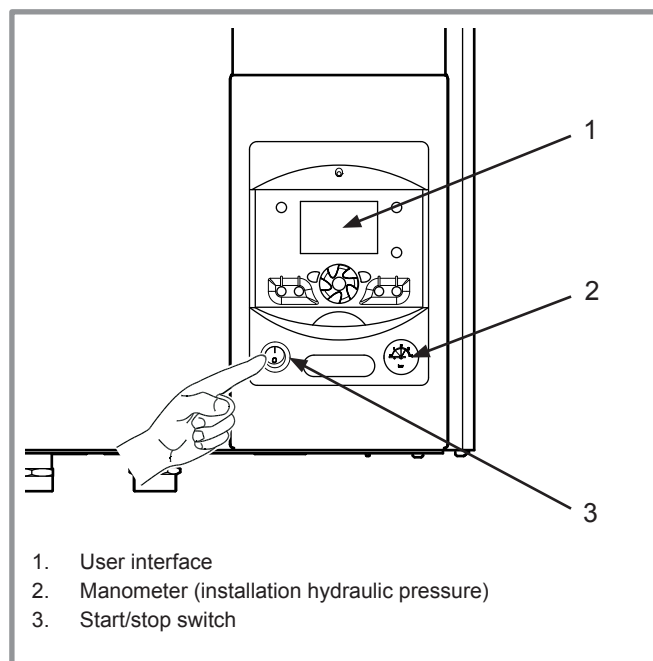

figure 5 - Start-up
- Ensure that the installation is fully filled with water and has been correctly bled and that there is a sufficient pressure of 1,5 to 2 bars on the manometer (ref. 2, figure 5).